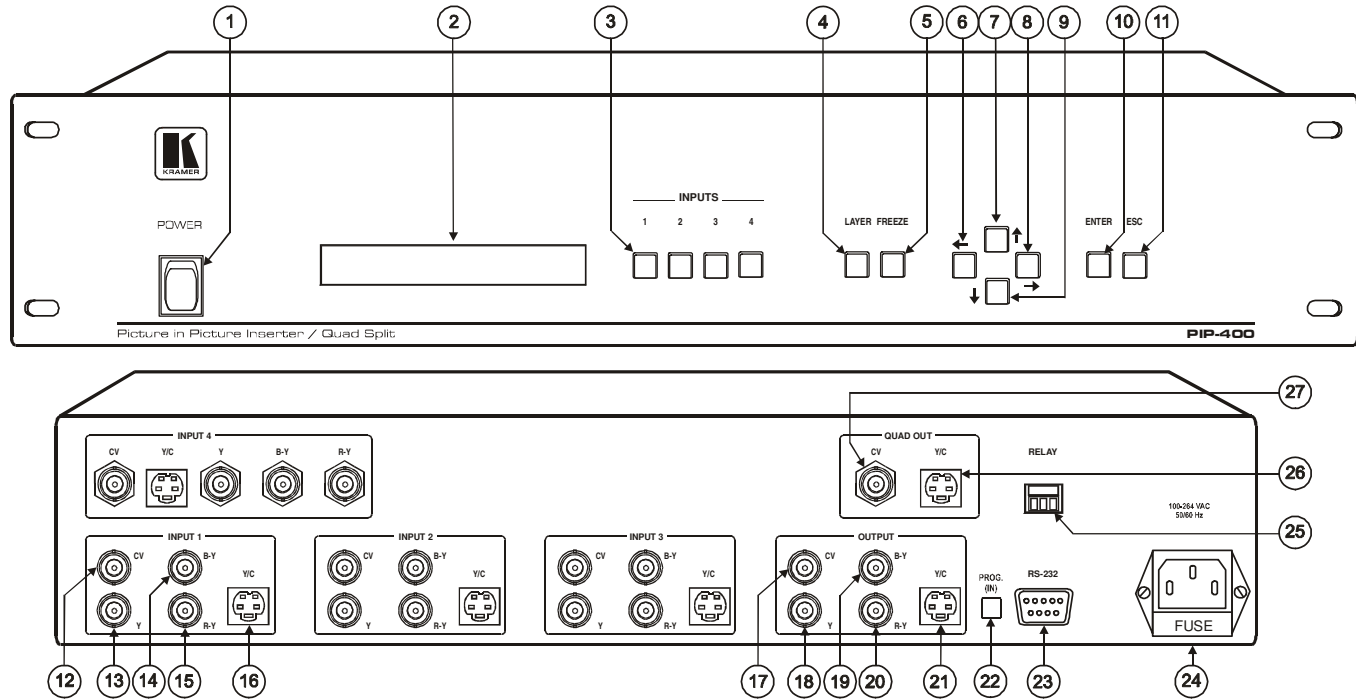

Figure 1: PIP-400 Picture in Picture Inserter / Quad Split
- Figure 1 illustrates the **PIP-400** *Picture in Picture Inserter / Quad Split*